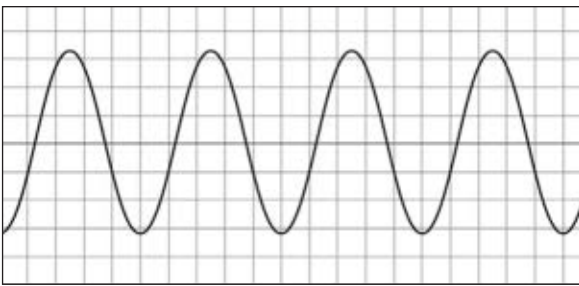

Figure 4 – Sine Wave Alternator Output.
with the same polarity (i.e., both North poles), the generated currents would cancel each other out. Therefore, alternator rotors — including ours — are made up of magnets with alternating polarities: N, S, N, S, and so on. As such, surprisingly the electrical output is not Alternating Current (AC) with the direction changing every time the magnets pass over the coils. If the coils and magnets are correctly aligned, the resulting output looks like a sine wave (**Figure 4**).